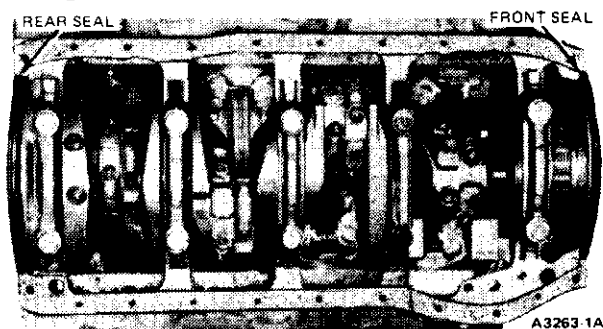

FIG. 27 Oil Pan Gasket and Seals Installed—Typical
3. Coat the block surface and the oil pan gasket with contact cement (B9AE-19B508-A or equivalent). Position the oil pan gaskets on the cylinder block (Fig. 27).
5. Position the oil pan rear seal on the rear main bearing cap (Fig. 27). Be sure the tabs on the seal are over the oil pan gasket.